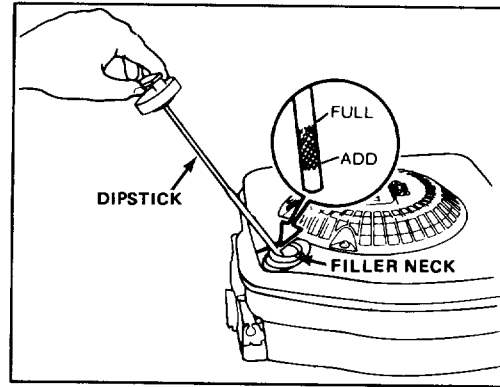

Figure 4
Before each use, assure oil level is between FULL and ADD marks on dipstick (Fig. 4). Add oil if level is low.
3. Wipe dipstick and insert it into filler neck. Rotate cap clockwise 1/4 turn. Then remove dipstick and check level of oil on side of dipstick with FULL and ADD marks (Fig. 4). If level is low, add only enough oil to raise level to FULL mark on dipstick. **DO NOT FILL ABOVE FULL MARK BECAUSE ENGINE COULD BE DAMAGED WHEN STARTED. POUR OIL SLOWLY.**
1. **CHECK OIL LEVEL**—Maintain oil level between ADD and FULL marks as shown on dipstick (Fig. 4).